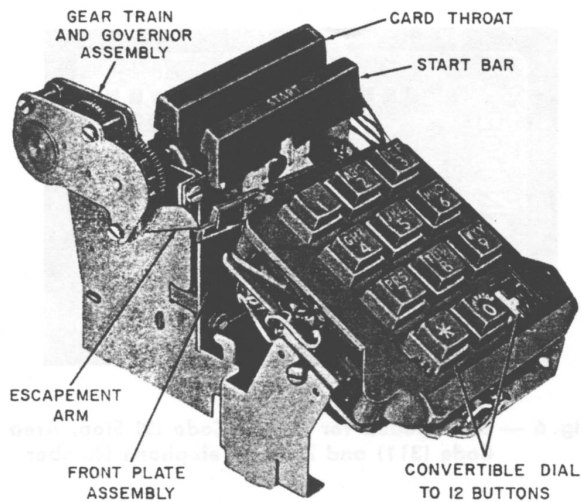

Fig. 2 — 26F Dial, Left Side View
- Gear train assembly — controls speed and timing (Fig. 2)
- Card throat — provides switching (Fig. 2)
- Front plate assembly — controls start and stop action (Fig. 2)
- START bar (Fig. 2) when depressed operates the common switch of associated TOUCH-TONE dial and starts dialing mechanism.
(e) Escapement arm (Fig. 2) should work freely without binding or catching.